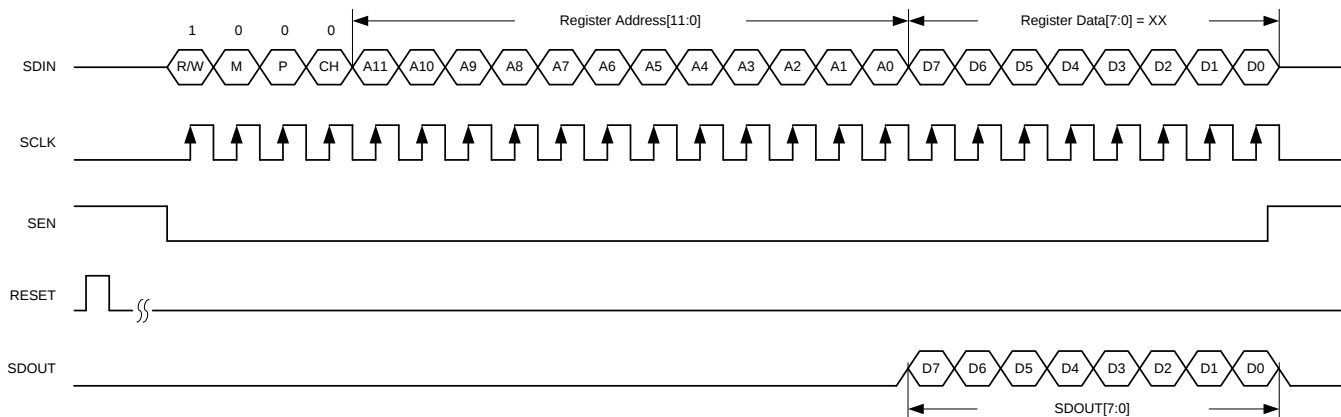
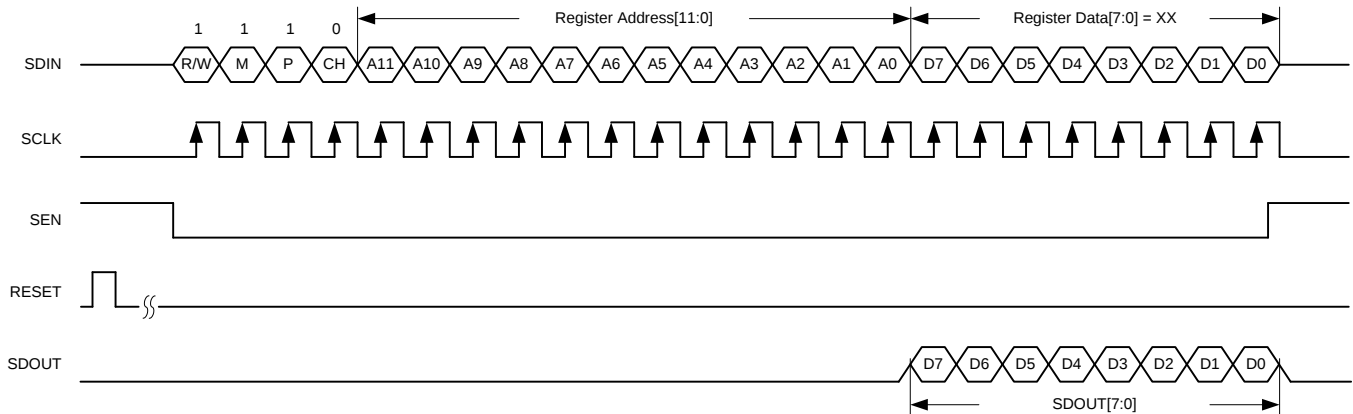
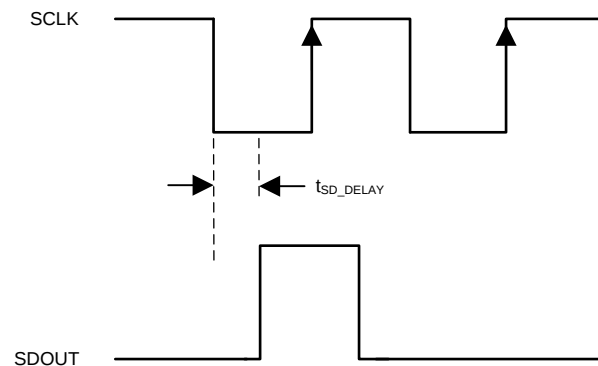

Figure 71. Serial Register Read Timing Diagram
Figure 74. JESD Serial Register Read Timing Diagram
Figure 75. SDOUT Timing Diagram
4. Reading back the register content on the SDOUT pin, as shown in Figure 71. When a page is selected, multiple read backs from the same page can be done. SDOUT comes out at the SCLK falling edge with an approximate delay (t_{SD_DELAY}) of 68 ns; see Figure 75.
4. Reading back the register content on the SDOOUT pin; see Figure 74. When a page is selected, multiple read backs from the same page can be done. SDOOUT comes out at the SCLK falling edge with an approximate delay (t_{SD_DELAY}) of 68 ns; see Figure 75.